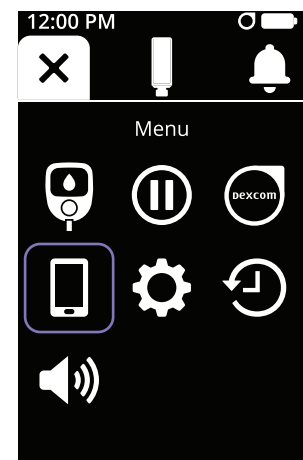

Figure 94
- b. Tap the **Mobile** icon (see Figure 94).